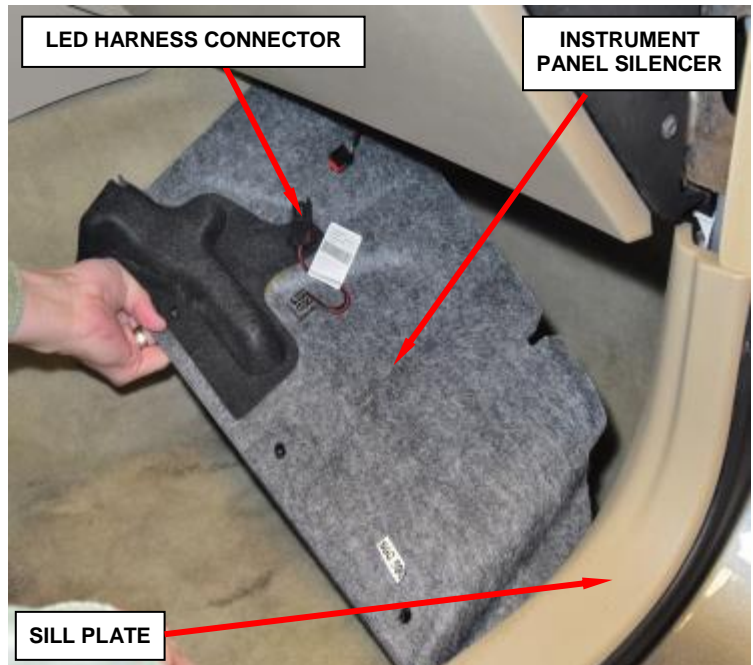

Figure 30 – Instrument Panel Silencer
- b. Remove the right side sill plate (Figure 30).
- c. Remove the three pushpins that secure the instrument panel silencer to the instrument panel (Figure 30).
- d. Disconnect the harness connector(s) and remove the right side instrument panel silencer (Figure 30).